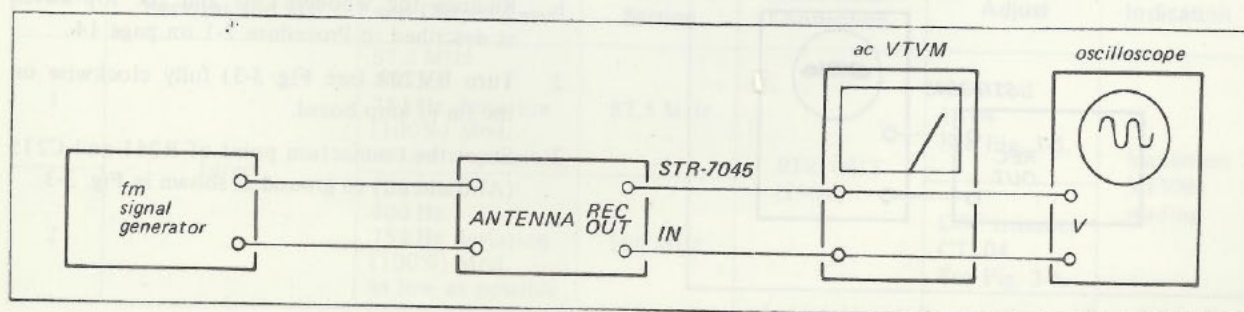

Fig. 3-2. Fm i-f, muting and front-end alignment test setup
3. Connect the signal-generator output to the fm antenna terminal as shown in Fig. 3-2.
1. With the equipment connected as shown in Fig. 3-2, set the signal-generator controls as follows:
1. With the equipment connected as shown in Fig. 3-2, set the receiver controls as follows:
2. Connect the equipment as shown in Fig. 3-2.